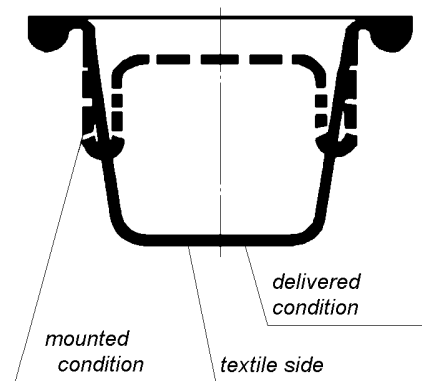

Figure 2: Membrane
- Prepare the new membrane according to Figure 2 and insert the membrane.